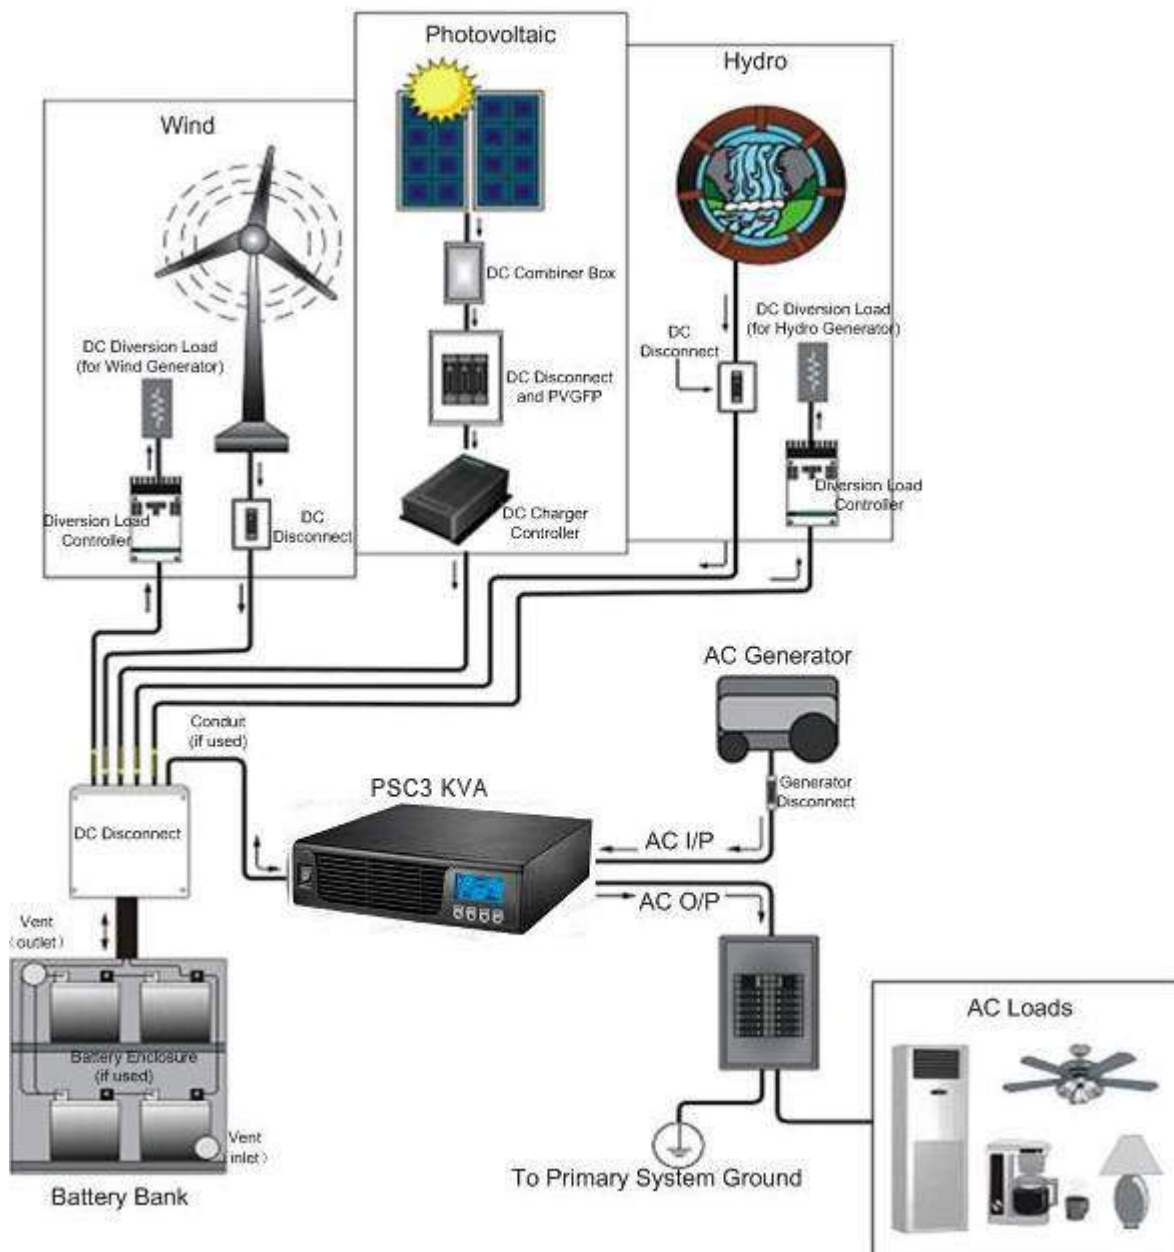

Figure 2 Renewable Energy Source
- Renewable Energy Source And a Generator, see figure 2